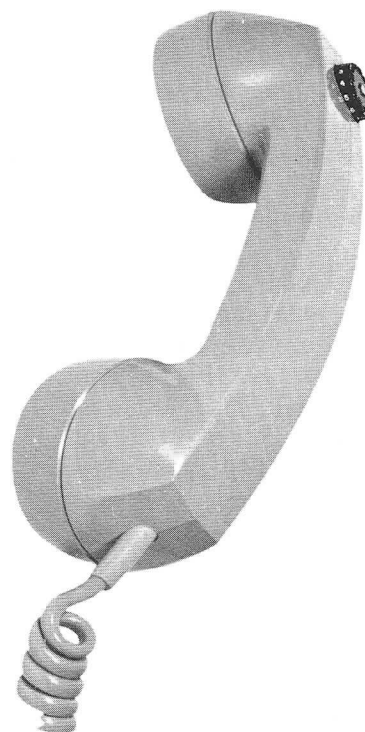

Figure 1. Type 820 Handset.
1.02 The information contained in this section concerns the repair and maintenance of the Type 820 handset which is used by customers with impaired hearing. The handset (Figure 1) employs miniature techniques and close tolerances to the extent that repair and maintenance (except cap and capsule replacement) should not be attempted in the field. The procedures described in this section are to be performed by a skilled electronics craftsman in a repair facility.